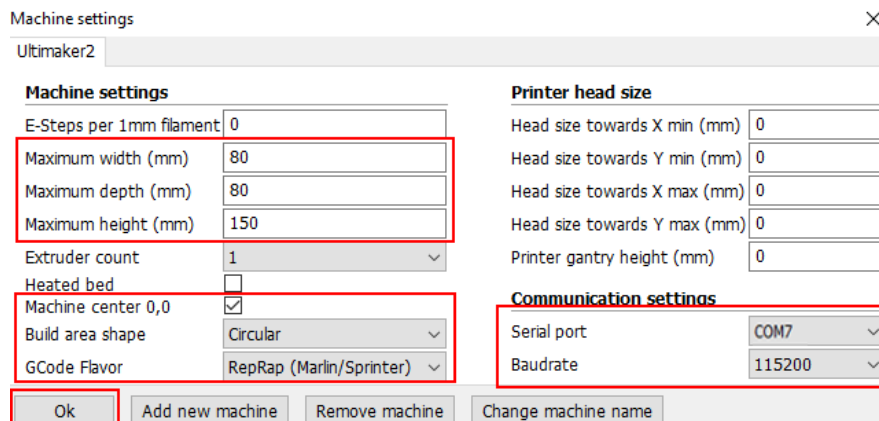

Figure 5.133 Parameters setting
2. Set the corresponding parameters on the Machine settings and click **OK**, as shown in Figure 5.133. Table 5.16 lists the values of the parameters that need to be set. The other parameters are set by default.